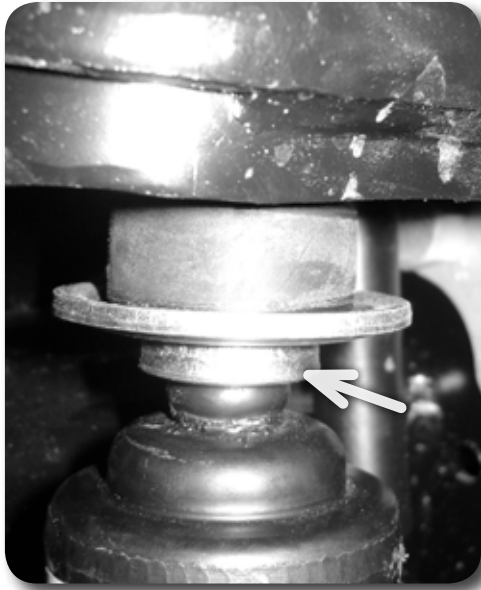

Figure 2
11. If you purchased new front shocks, proceed to step 13. If using the factory shocks, compress the shocks and remove the lower cup washer and bushing. Install the new spacer sleeve on the shock stud. **Figure 2**